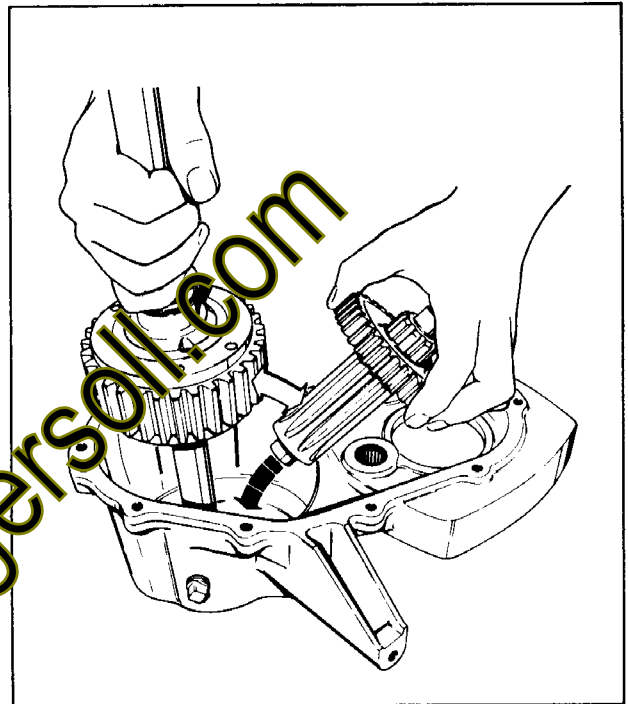

Figure 2-5
2. Install differential and output shaft simultaneously. Position gear $3/4$ " I.D. spacer, and thrust washer on shaft (Fig. 2-5)